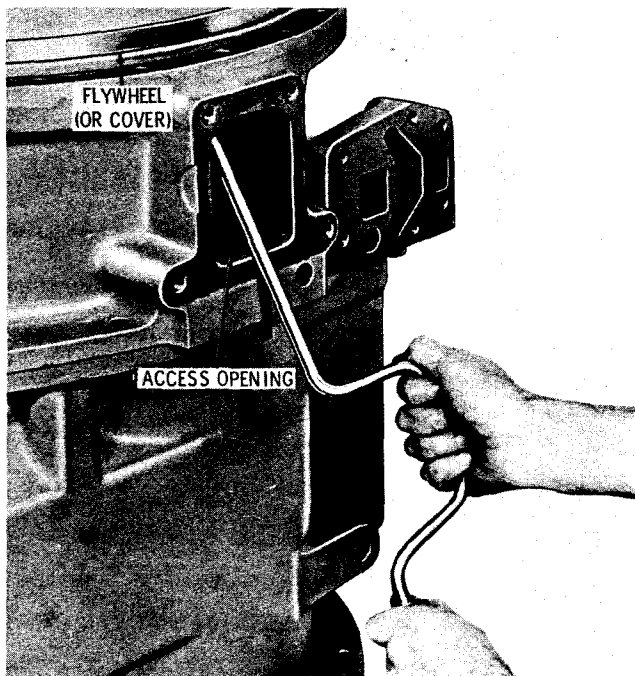

Fig. 7-44. Installing bolts which retain flywheel (or converter drive cover)
(26) Working through the access opening in the converter housing, install thirty-six 3/8-24 x 1 1/4-inch, self-locking bolts, with flat washers to retain the flywheel or drive cover (fig. 7-44). Remove the guide bolt installed in (24) or (25), above. Tighten the bolts evenly to 41 to 49 pound feet torque.